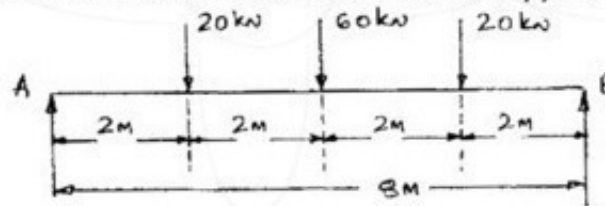

Fig Q3(a)
- 3 a. A simply supported beam of span 8m as shown in Fig Q3(a). Find the shear force and Bending moment at section 4m from left and draw ILD for support Reaction, SF and BM.